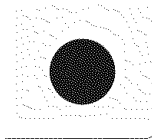
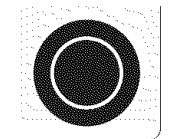

Fig. 3
Fig. 4
2. Push in and turn the control knob **counterclockwise** (See Figs. 3 & 5) for smaller cookware or **clockwise** (See Figs. 4 & 6) for larger cookware to the desired setting using the ESEC digital display window for the desired setting.